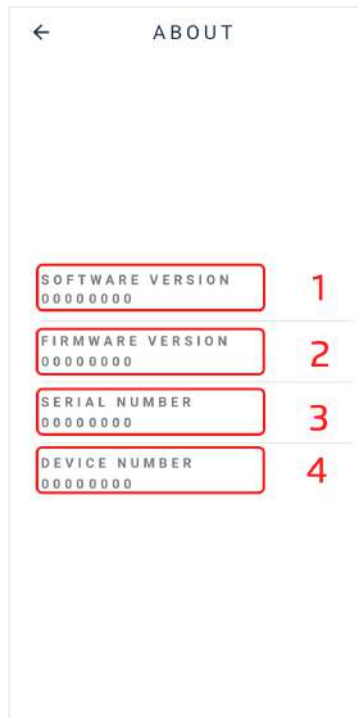

Figure 106: Device information
2. User will be directed to the screen in figure 106 which contains: